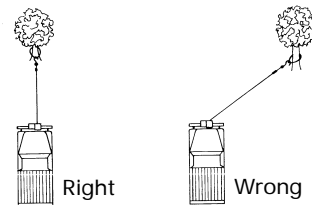

Figure 6
- AVOID CONTINUOUS PULLS FROM EXTREME ANGLES as this will cause the wire rope to pile up at one end of the drum (Figure 6). This can jam the wire rope in the winch, causing damage to the wire rope or winch itself.